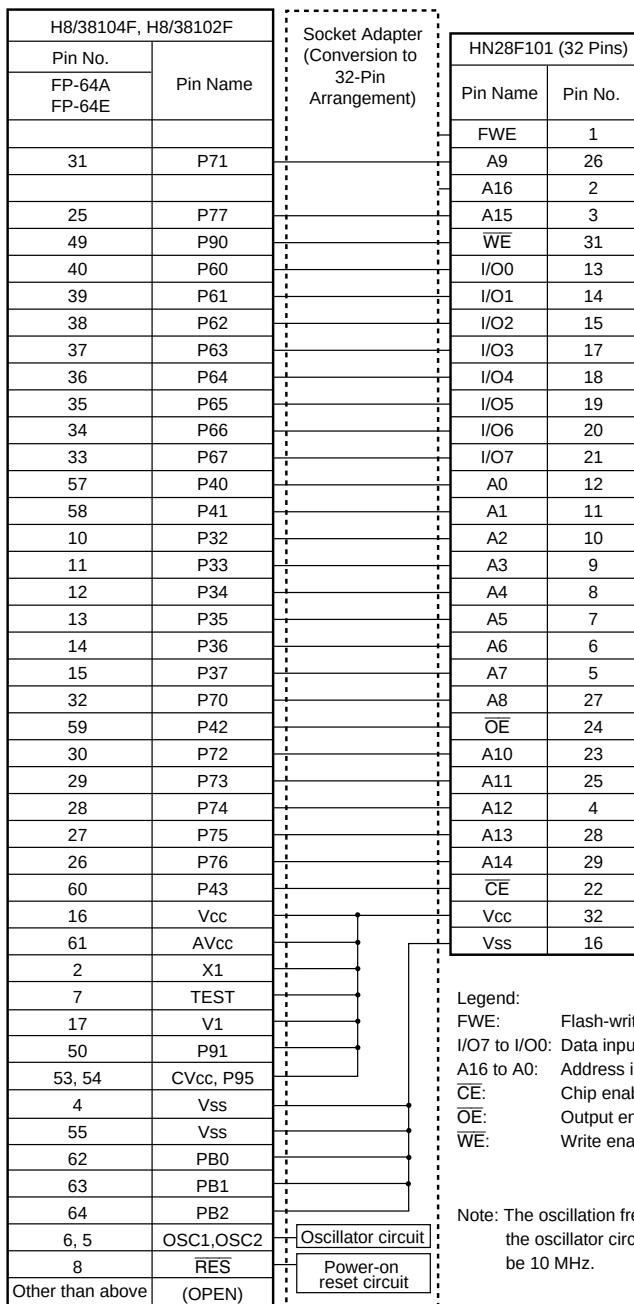

Figure 6.12(2) Socket Adapter Pin Correspondence Diagram (H8/38104F, H8/38102F)
The socket adapter converts the pin allocation of the HD64F38004, HD64F38002, HD64F38104, and HD64F38102 to that of the discrete flash memory HN28F101. The address of the on-chip flash memory is H'0000 to H'7FFF. Figure 6.12(1) shows a socket-adapter-pin correspondence diagram of the HD64F38004 and HD64F38002. Figure 6.12(2) shows a socket-adapter-pin correspondence of the HD64F38104 and HD64F38102.